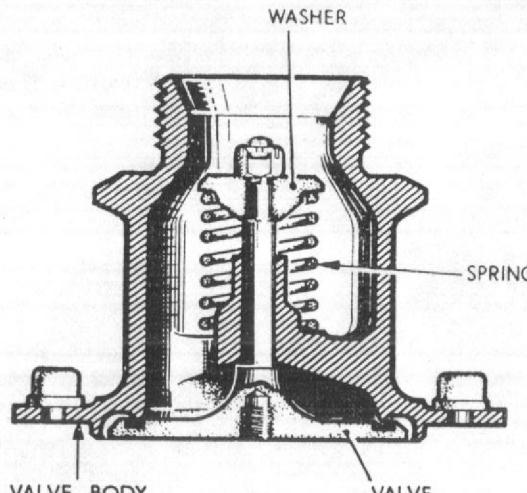

Fig. 8 Refuelling pressure relief valve
5. Each wing accommodates four tanks, these being installed in the wing roots in bays formed between the front and leading edge spars and between ribs A and 1, 1 and 2, 2 and 3 and between ribs 3 and G. The four tanks are interconnected and, for practical purposes, may be considered as one tank. The fuel from these tanks is transferred to the centre fuselage tanks by air pressure (para. 7), interconnection being by means of transfer pipes, one of which runs from each inboard wing tank to its respective centre tank in the fuselage. These pipes each incorporate a refuelling pressure relief valve (fig.8) set to blow off at 11–13lbf/in2 to safeguard the tanks in the event of a refuelling valve failure. The outboard tank in each wing contains a float switch fitted for refuelling purposes.
**Refuelling pressure relief valves (fig. 8)**